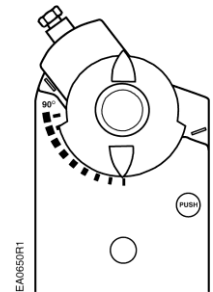

Figure 19.
- e. Place the position indicator to the "0" position on the outside scale. See Figure 19.